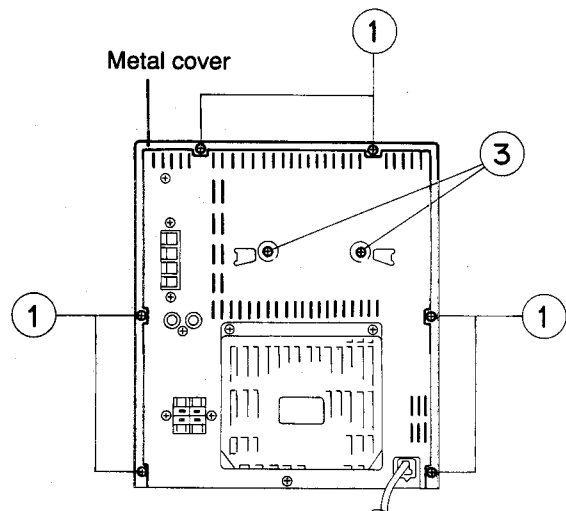

Fig. 5-1
■ Removal of the Metal Cover (See Figs. 5-1,5-2)
1. Remove the six screws ① fastening the metal cover to the rear panel of the main unit. (See Fig. 5-1)
2. Remove the two screws ② fastening the metal cover to the side panel of the main unit. (See Fig. 5-1)
(See Figs. 5-1 ~ 5-4)
2. Remove the two screws ② fastening the CD traverse mechanism assembly to the rear panel of the main unit. (See Fig. 5-1)